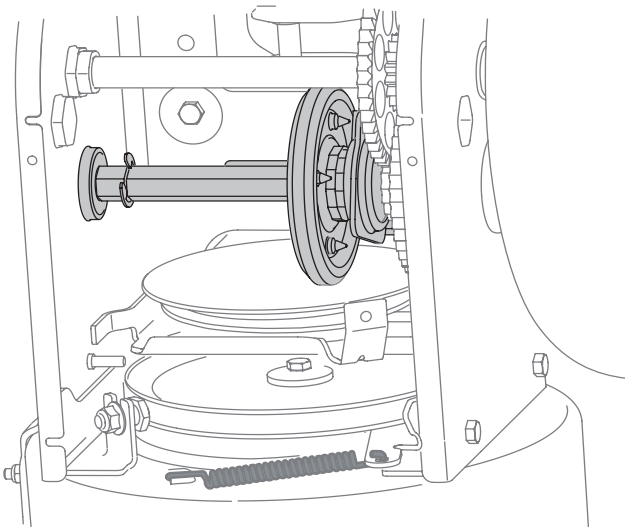

Figure 20
- Apply a light coating of an all-weather multi-purpose grease to the hex shaft. See Figure 20.